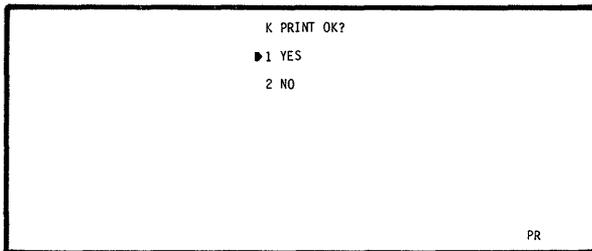

Fig. 14.10
– Screen shown in Fig. 14.10 is displayed.
When the printer is not connected or when the power of printer is off, the **[CL]** key is invalid. In this case, however, the "PRINTER ERROR" error message is displayed in approximately one second. After the error message is displayed, pressing the **[CL]** key restores the screen shown in Fig. 14.10.